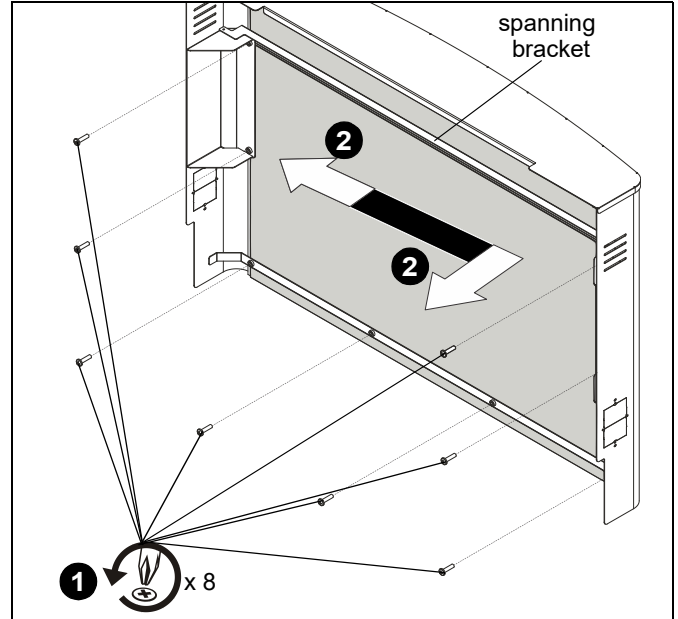

Figure 21
1. Remove eight Phillips screws holding aesthetic cover inside base cover (C) and spanning bracket. (See Figure 21)
2. Remove aesthetic cover from base cover by sliding it first to one side and then out. (See Figure 21)